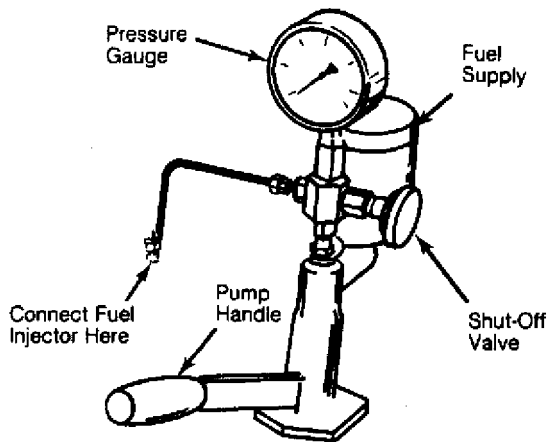

Fig. 11: Testing Fuel Injectors
5) Remove injectors from vehicle and use injector tester to determine opening pressure. See Fig. 11. Check readings against specifications. See CIS (LAMBDA) FUEL PRESSURES table. Replace injectors if faulty.